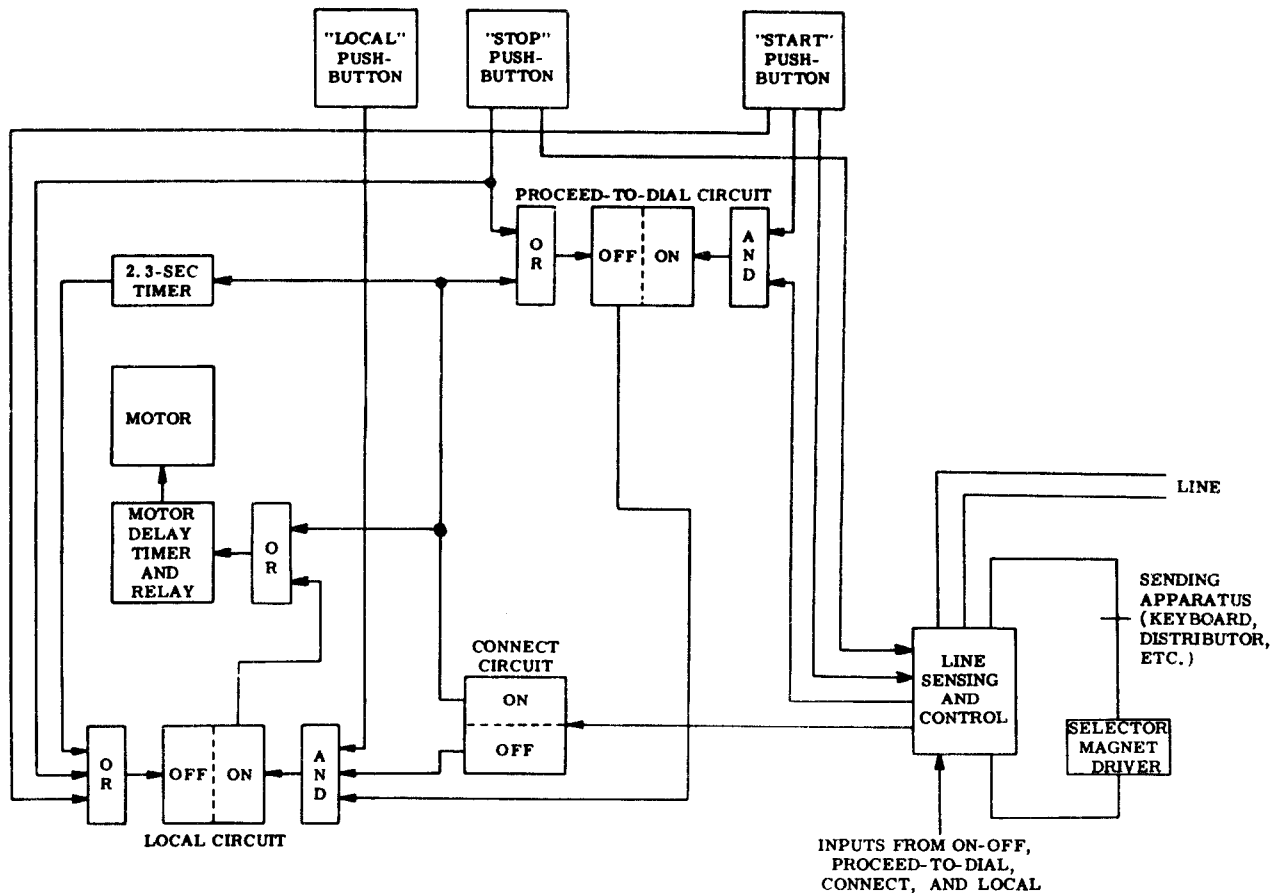

Figure 7 - Circuit Interconnections
3.18 The block diagram for the circuit interconnections is shown in Figure 7.